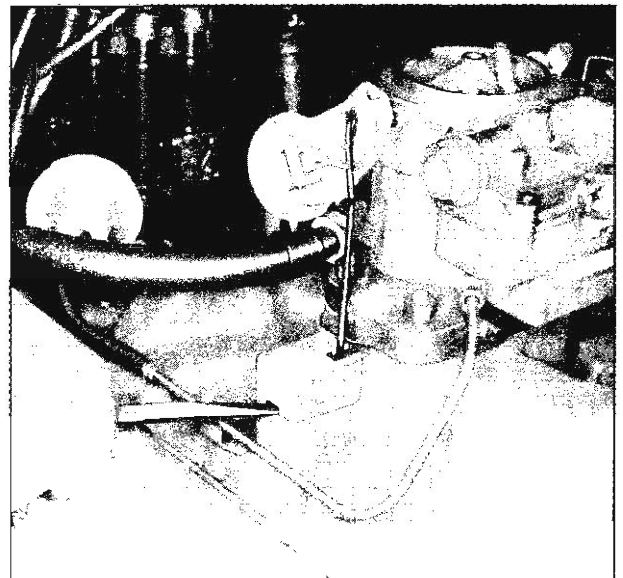

Fig. 8—Removing Choke Cover
1. Remove shield by prying with screw driver in cutout provided (fig. 8).